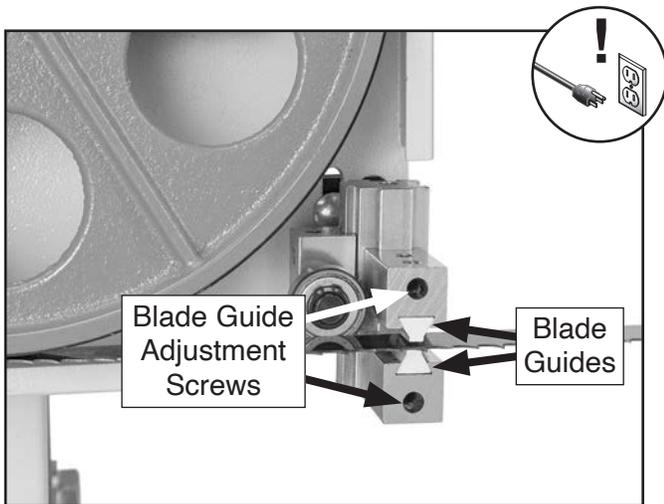

Figure 76. Location of blade guides and adjustment screws.
2. Loosen blade guide adjustment screws shown in **Figure 76**.
3. Adjust blade guides until there is about 0.010" between them and either side of blade (about the thickness of sheet of paper) (see **Figure 76**).